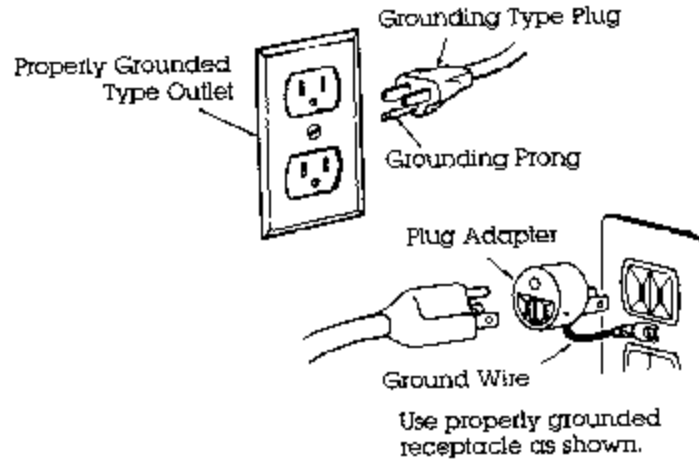

FIGURE 1-Always use a properly grounded receptacle.
2. **GROUND ALL TOOLS**-If tool is equipped with a three-prong plug, it should be plugged into a three-hole receptacle. If an adapter is used to accommodate a two-prong receptacle, the adapter wire must be attached to a KNOWN GROUND. Never remove third the prong. (See Figure 1.)